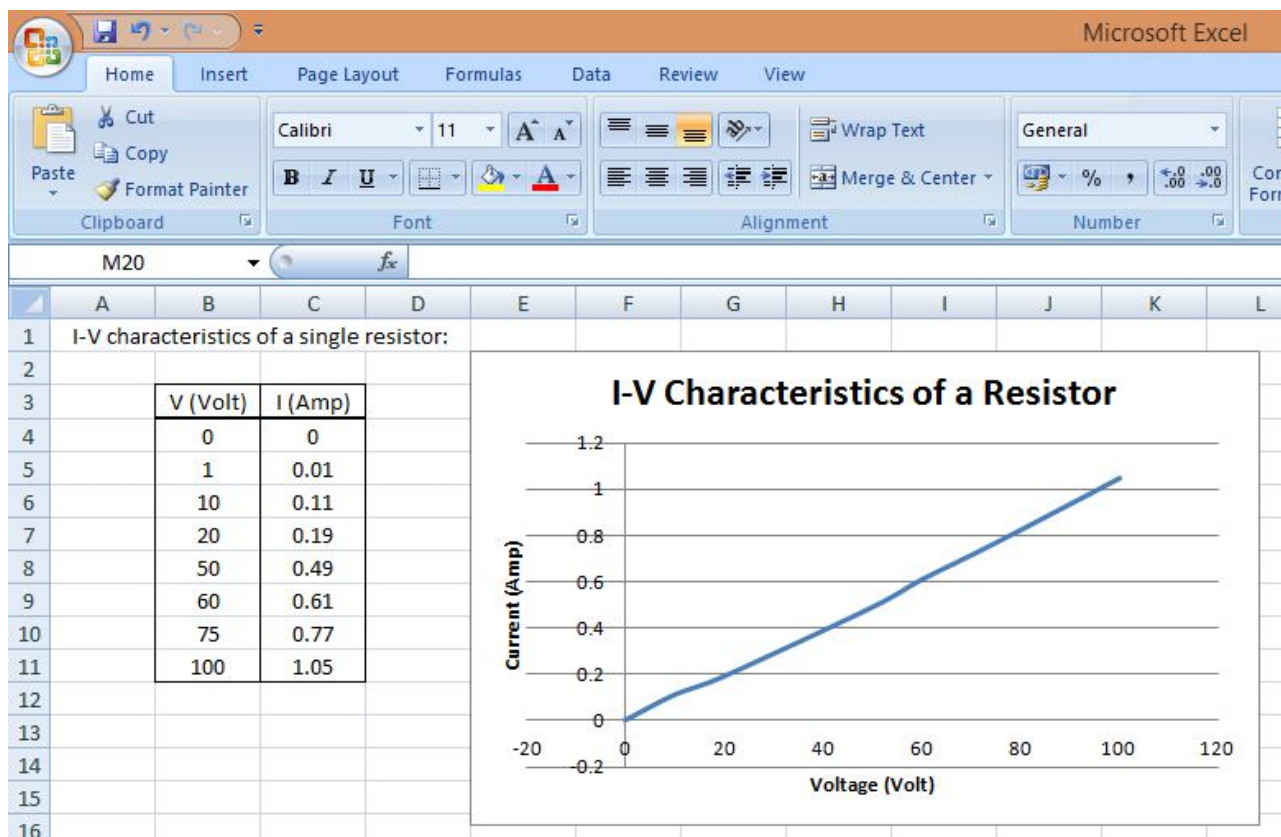

Figure 6
6. You can now double-click in the respective text-boxes and fill in the title and labels. Refer Figure 6.